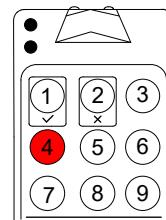

Figure 8
3. In the setting selection area of the remote control, button 4 with the current setting is illuminated, which corresponds to the radar height of 4–5 m (Fig. 8).